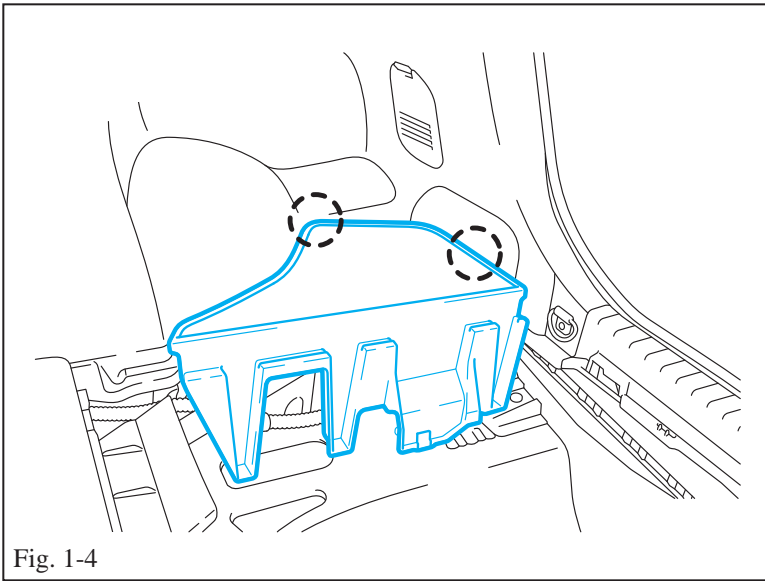

Fig. 1-4
- (e) Disengage the two (2) guides and remove the battery cover. (Fig. 1-4)